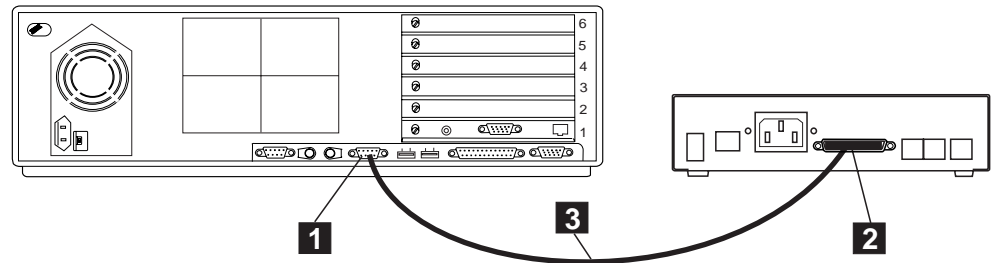

Figure 1-68. Connecting the Service Processor (7585) from COM1 to the 7858
- **7585**, refer to Figure 1-68